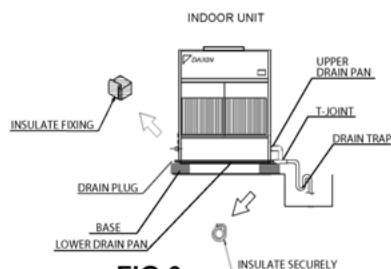

FIG 6
- Assemble the unit as shown in FIG.6.
- It is necessary to connect drain pipe both upper and lower point (FIG.6)
- After closing the drain pipe on the opposite side of the unit, completely wrap the drain pipes with insulation (FIG.6).